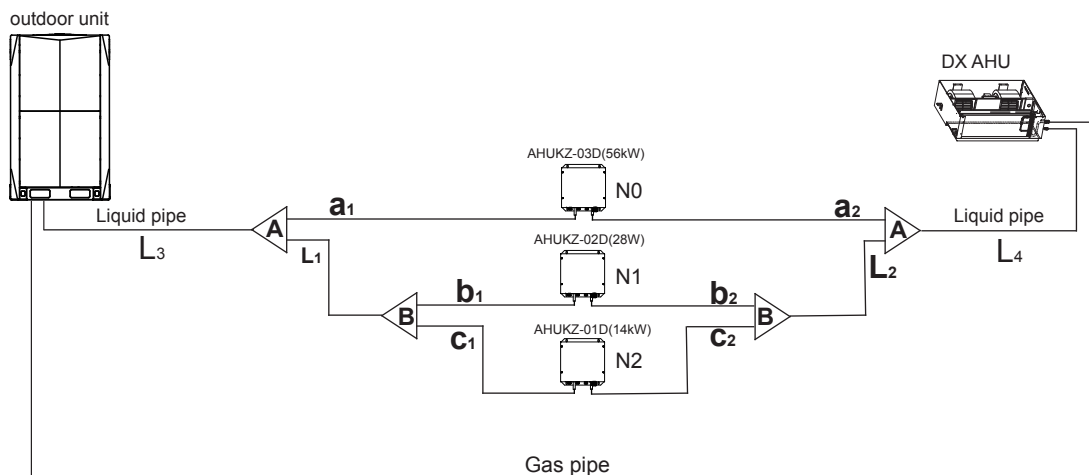

Figure 3-7
Pipe name	Code(refer to Fig 3-7)
e.x.1: Refer to Figure 3-7, the capacity of downstream controller box to L4 is 560+280+140=980, the pipe is Φ19.1.